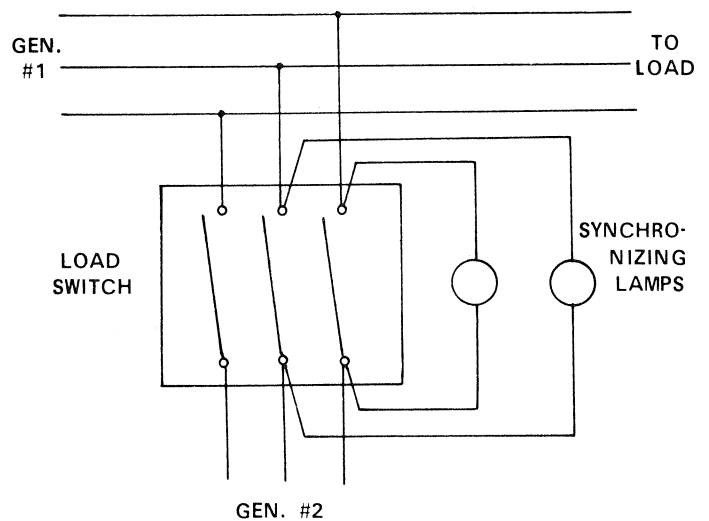

FIGURE 3-1. SYNCHRONIZING PARALLELED GENERATORS USING TEST LAMPS
3.7.2 If a synchroscope is not available, generators can be synchronized by using incandescent lamps connected in the load circuit as shown in figure 3-1. Make certain that the total voltage rating of the series lamps equals the voltage rating of the generator.